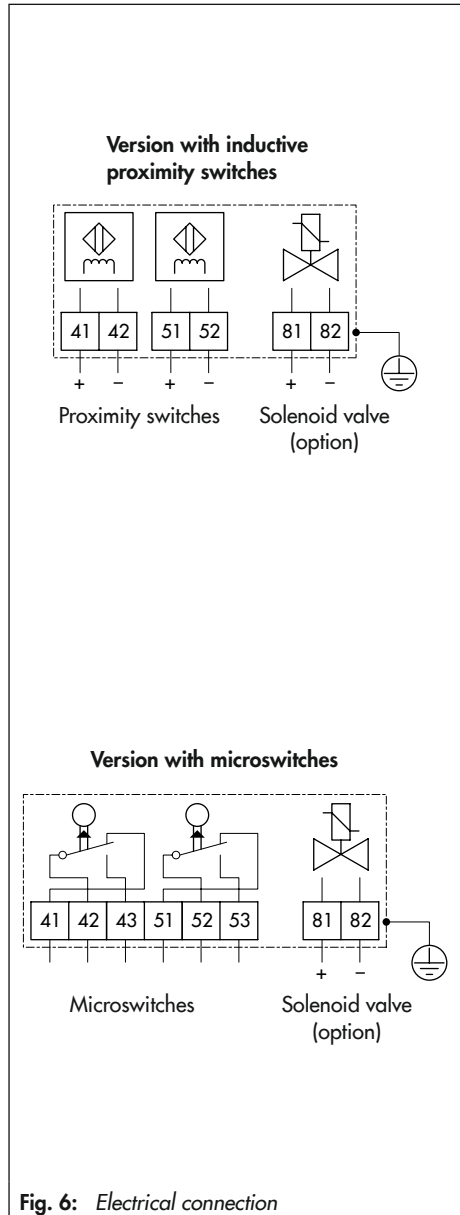

Fig. 6: Electrical connection
2. Route wires through the cable gland to the terminals as shown in Fig. 6.